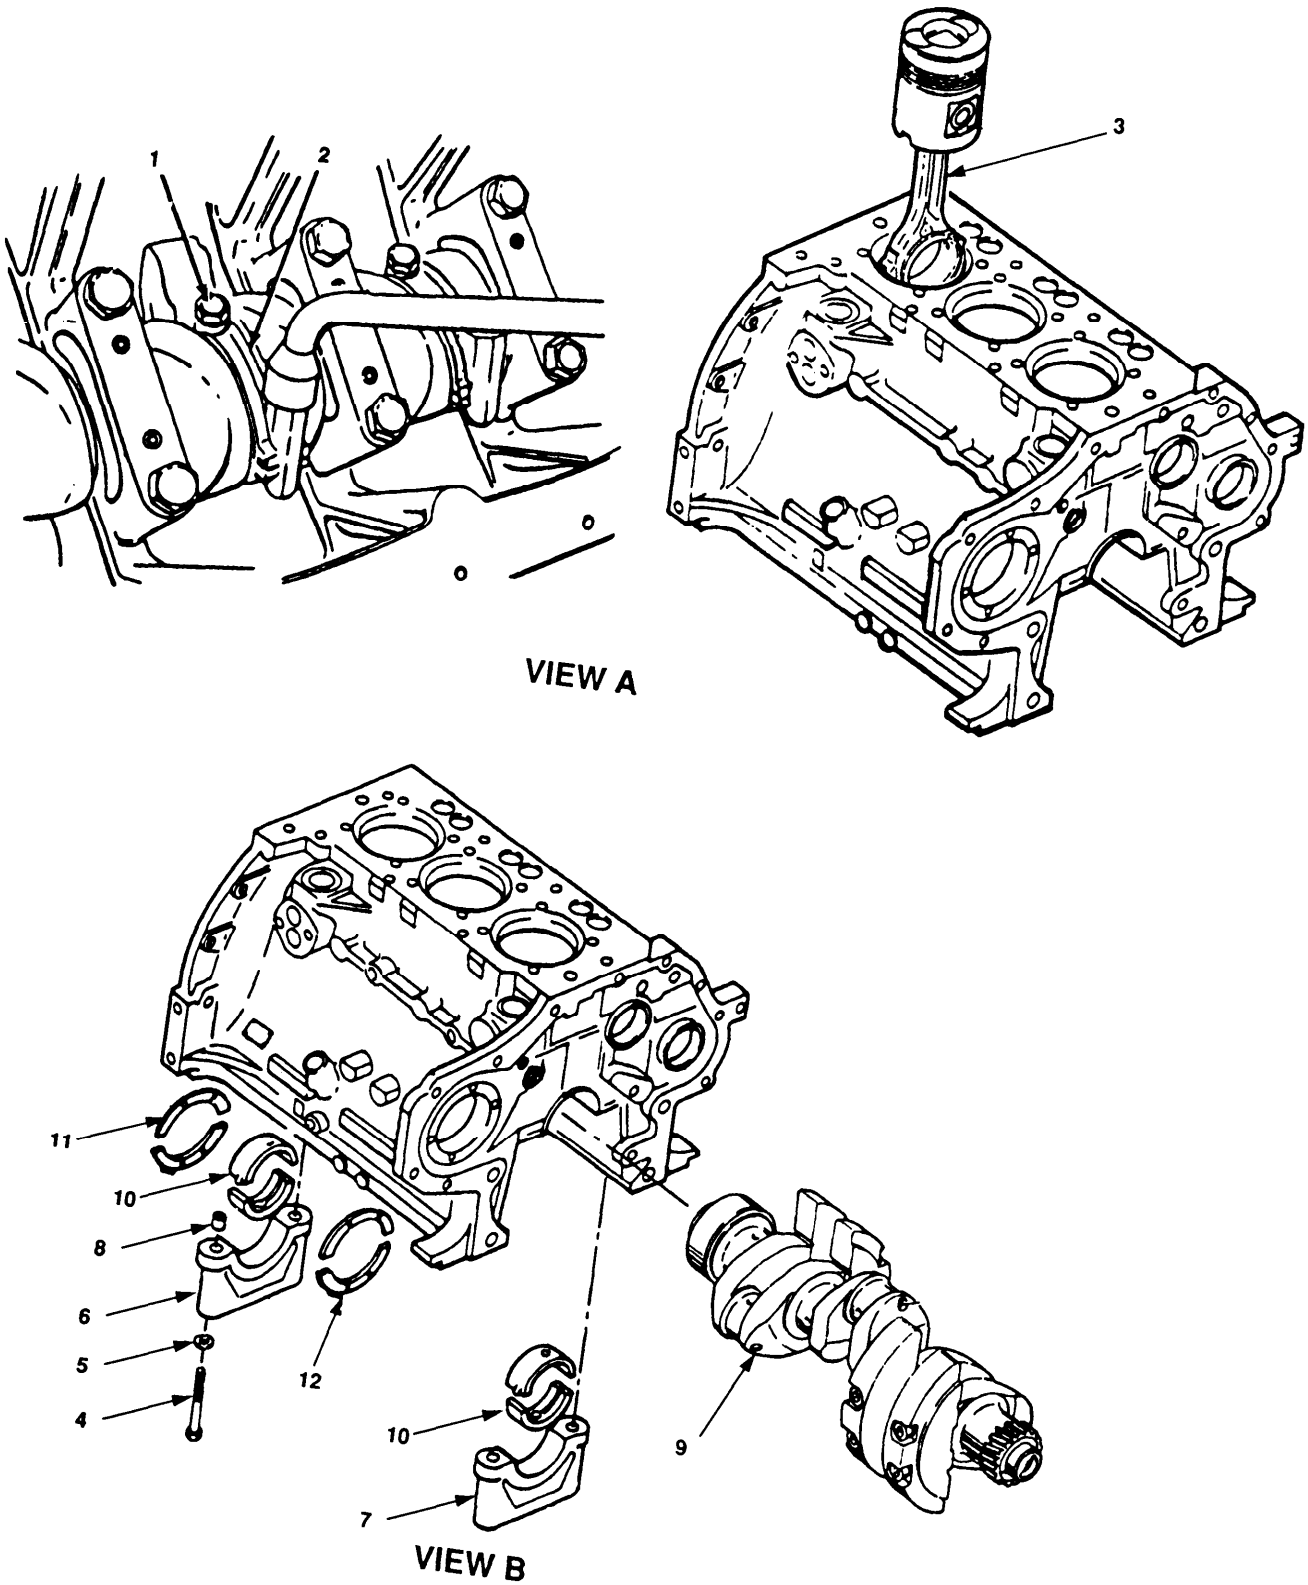
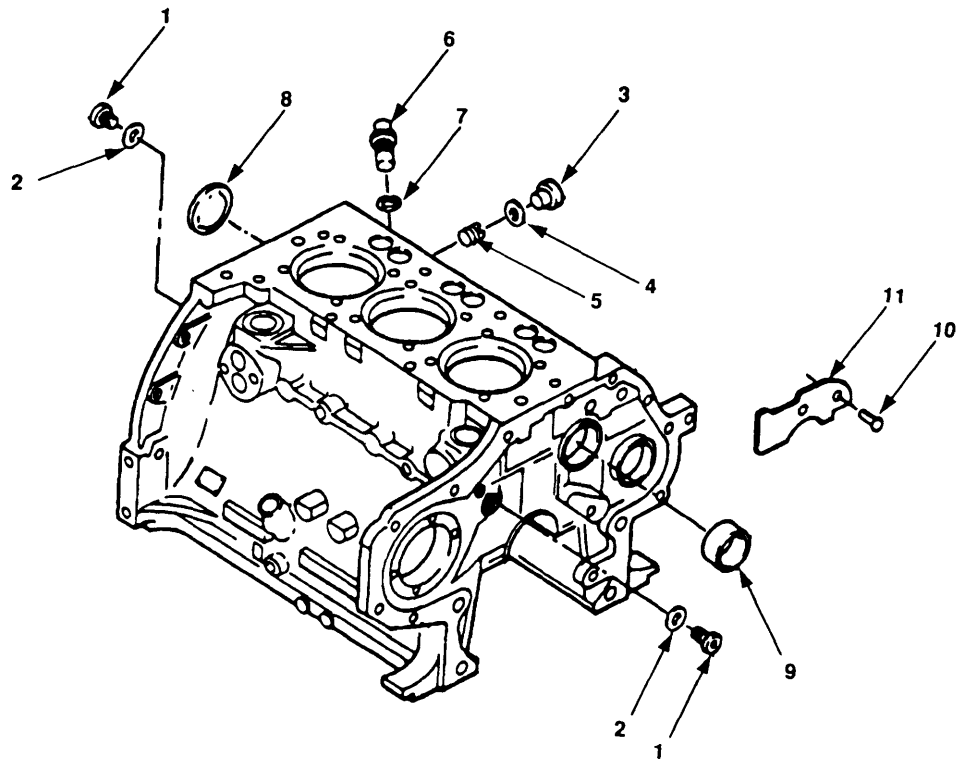

Figure 6-10. Piston and Crankshaft Removal.
Figure 6-11. Crankcase Disassembly.
- p. Remove connecting rod bolts (figure 6-10, 1) and connecting rod caps (2).
- q. Remove pistons (3).
- t. Remove crankshaft (9), bearing halves (10), and stop rings (11 and 12).
- u. Remove two plugs (figure 6-11, 1), and washers (2).
- v. Remove plug (3), washer (4), plug (5), nozzle (6), washer (7), and plug (8).
- w. Remove sleeve bearing (9), notched nail (10) and deflector plate (11).
- a. Install deflector plate (figure 6-11, 11), notched nail (10) and sleeve bearing (9).
- b. Install plug (8), washer (7), nozzle (6), plug (5), washer (4), and plug (3).
- c. Install two washers (2) and plugs (1).
- d. Install crankshaft (figure 6-10, 9) as follows:
- (1) Check locating pin in crankcase gearwheel. It should project 0.67 inch (17mm) from side opposite bearing identification mark. If necessary install new locating pin.
- (2) Install crankcase gearwheel with face bearing identification mark directed away from crankshaft (9).
- (3) Install bearing halves (10) and bearing caps (6 and 7), making sure that identification marks are correct.
- (4) Coat ring stops (11 and 12) with grease and stick them by their smooth faces to first bearing web and first bearing cap.
- (5) Install eight dowel bushings (8).
- (6) Using oil, lubricate crankshaft journals and install crankshaft (9) with crankshaft gear match mark positioned.
- (7) Ensure bearing shells are seated in main bearing caps and bearing webs.